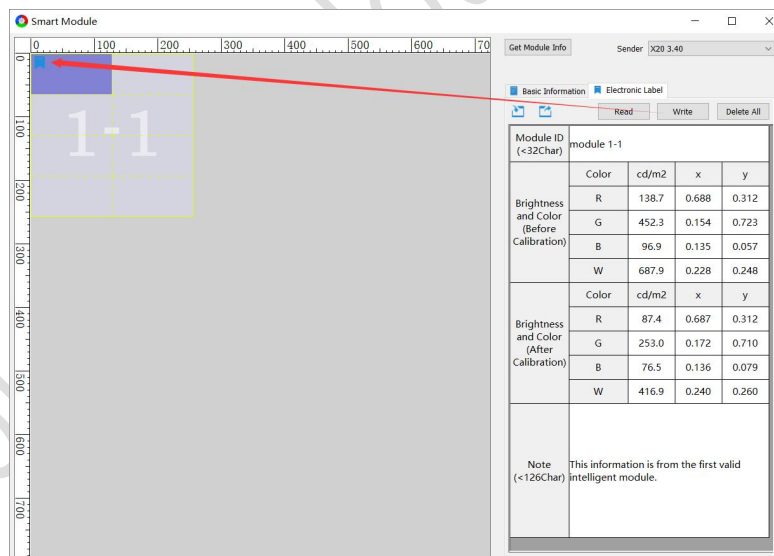

Fig 11.3.3 Write electronic labels
Step 3: Click **Write** to write the electronic label to the selected module. Once the label is written, the icon will be displayed at the top left of the module in the drawing area, as shown in Fig 11.3.3.